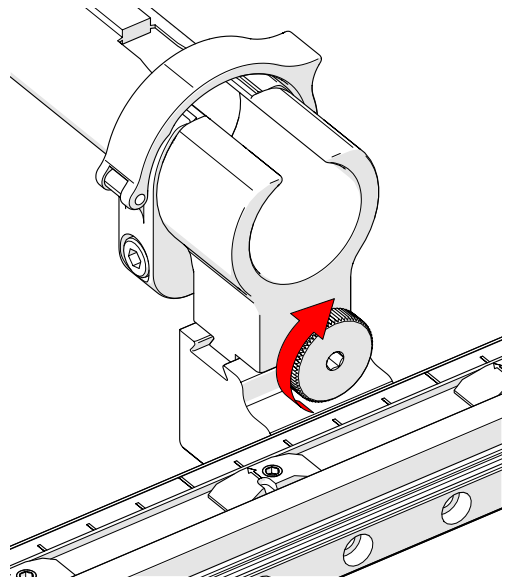

Fig. 76 - Tighten knob
2. Once centred on the dovetail link, tighten the cable management's dovetail mount knob (Fig. 76).